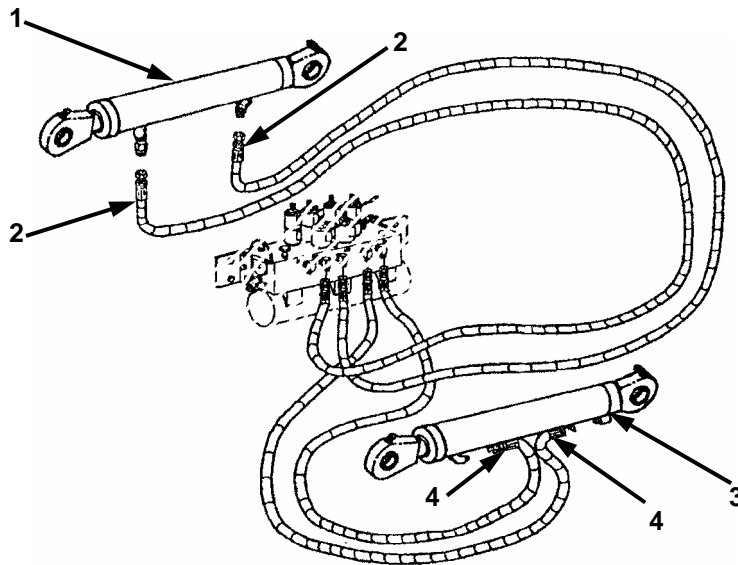

Figure 2-7. Track Adjusting Cylinder (1 of 3).
- b. Remove two hoses (Figure 2-7, 2) from right side hydraulic track adjusting cylinder (1) and set aside for disposition per Chapter 1, Section 1-8, step c.